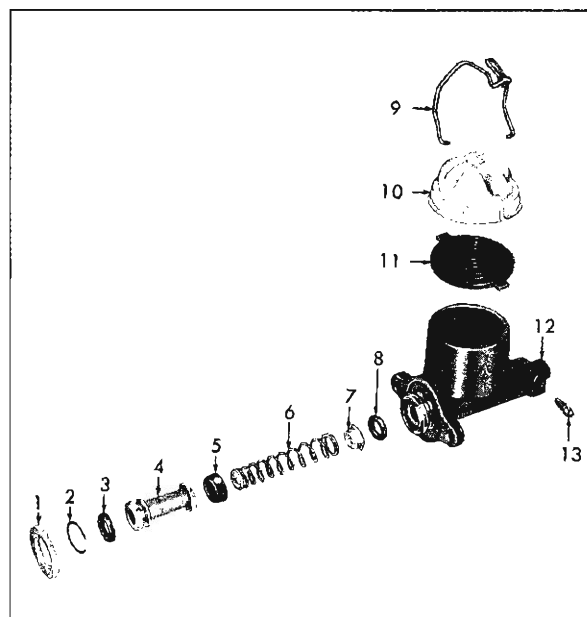

Fig. 22—Main Cylinder
2. Place main cylinder in a vise so that the lock ring (fig. 22) can be removed from the small groove in the ID of bore.